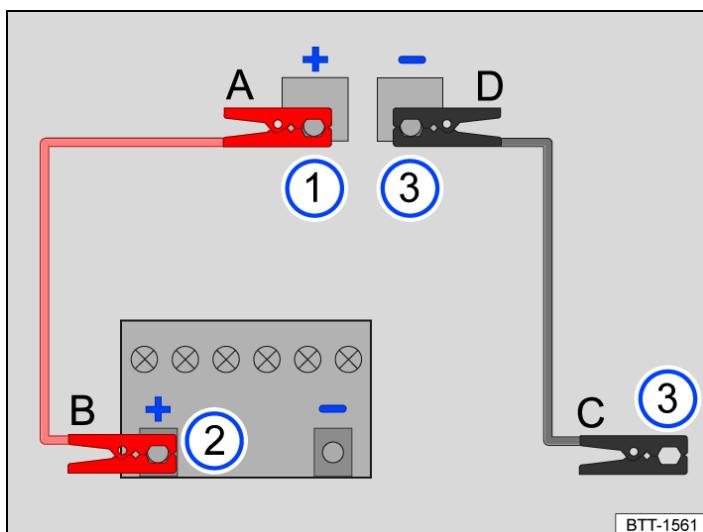

Fig. 2 Diagram for connecting the jump leads (12-volt vehicle battery in the luggage compartment).
The jump leads should be connected only in the order A – B – C – D → *Fig. 2*.
- Connect one end of the *red* jump cable A to the jump lead positive (+) of the vehicle with the discharged 12-volt vehicle battery → *Fig. 2* 1 → .
- Connect the other end of the *red* jump lead B to the positive terminal + of the vehicle battery providing assistance → *Fig. 2* 2.
- One end of the *black* jumper cable C should preferably be connected to a jumper point(ground connection) on the vehicle with the 12-volt vehicle battery supplying power, otherwise to a solid metal part firmly screwed to the engine block or to the engine block itself → *Fig. 2* 3.
- The other end of the *black* jump lead D for the vehicle with the 12-volt discharged vehicle battery, preferably to the jump lead ground connection (-), otherwise to a solid metal part firmly screwed to the engine block or to the engine block itself → *Fig. 2* 3 → .